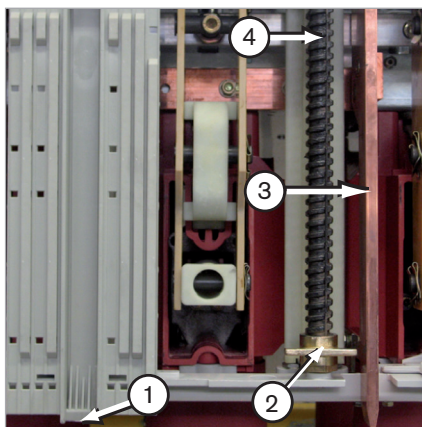
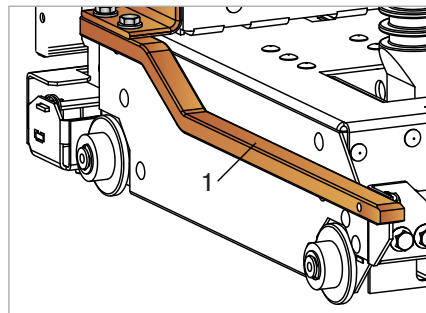

Fig. 21
Fig. 24
- The HVX trucks must latch in the lock rockers of the panels (Fig. 21).
The HVX-E circuit-breaker is optionally available with short-circuit proof earthing (Fig. 21 item 3 and Fig. 24).